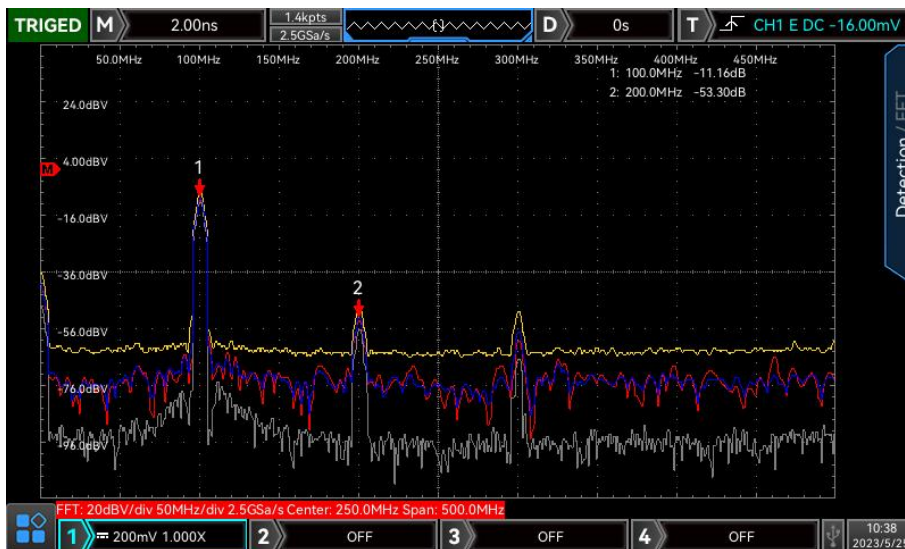

Figure 15-2
c. **Independent screen:** Only display FFT wave for observing frequency spectrogram more clearly, as shown in Figure 15-2.